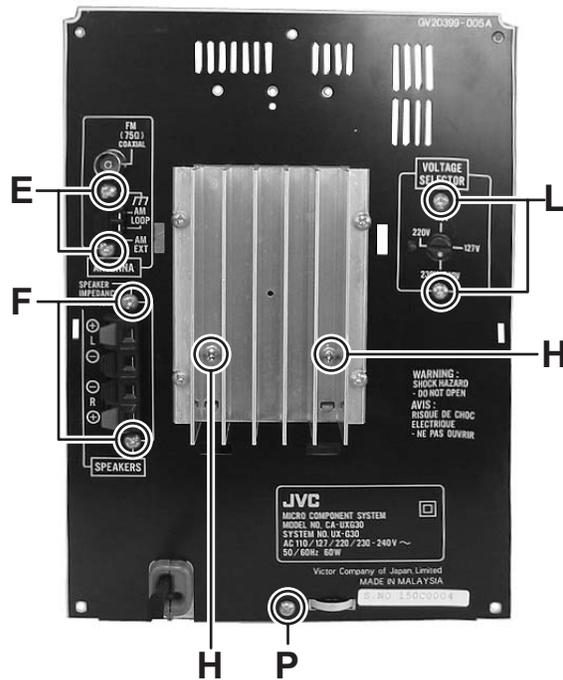

Fig.7
- (2) Remove the two screws **E** attaching the tuner pack. (See Fig.7)
- (1) Remove the two screws **F** attaching the micon board. (See Fig.7)
3.1.6 Removing the power amplifier board (See Fig.7, 8)
- (1) Remove the two screws **H** attaching the power IC. (See Fig.7)
3.1.8 Removing the trans board (See Fig.7, 10, 11)
- (1) Remove the two screws **L** attaching the trans board. (See Fig.7)
(See Fig.7, 12)
- (1) Remove the one screw **P** attaching the rear panel. (See Fig.7)